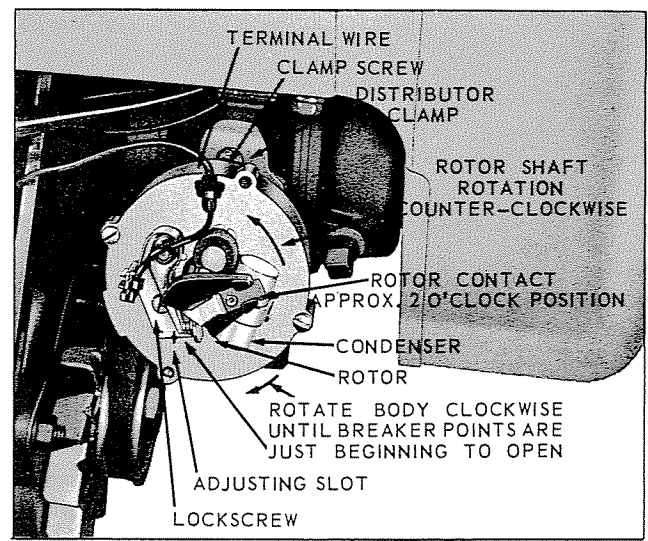
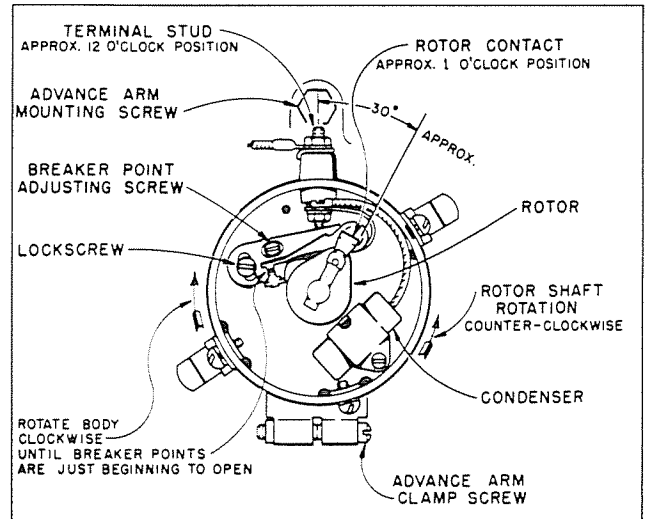

Fig. 7, DELCO-REMY DISTRIBUTOR
Fig. 7A, PRESTOLITE DISTRIBUTOR
4. **DISTRIBUTOR TIMING:** With the No. 1 piston now on *TDC* of the compression stroke, refer to Fig. 7 for the revised *Delco-Remy* distributor or Fig. 7A for *Prestolite*, and mount distributor as follows:
- b. Hold distributor with face up and *terminal wire* or *terminal stud*, away and in a 12 o'clock position as shown. Mount rotor on shaft and turn until the *rotor contact* points in an approximate 2 o'clock position as illustrated in Fig. 7, or 1 o'clock position as in Fig. 7A.
- d. Mount *distributor clamp* to drive housing, Fig. 7, but do not tighten screw. If applicable, as per Fig. 7A, tighten *advance arm mounting screw* to the drive housing.
The normal breaker point gap is *0.020 inch* at full separation and can be adjusted in the following manner, with reference to *Figs. 7 or 7A*: Turn engine over by means of the starting crank until the distributor breaker arm *rubbing block* is on a high point of the *cam*. Loosen the stationary contact *lockscrew* very slightly and insert a feeler gauge between the points. By means of a screw driver inserted into the *adjusting slot* of the *Delco-Remy* distributor or by the *adjusting screw* of the *Prestolite* distributor, open or close points as required until a slight drag is felt when sliding feeler gauge between the points. Tighten *lockscrew* and recheck gap.